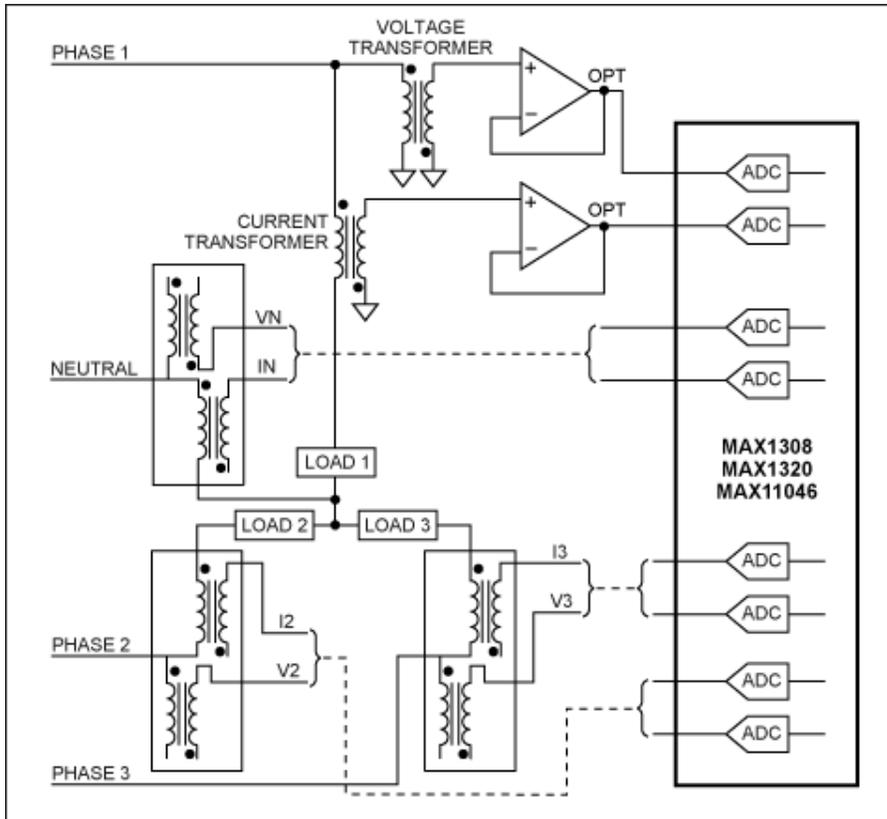
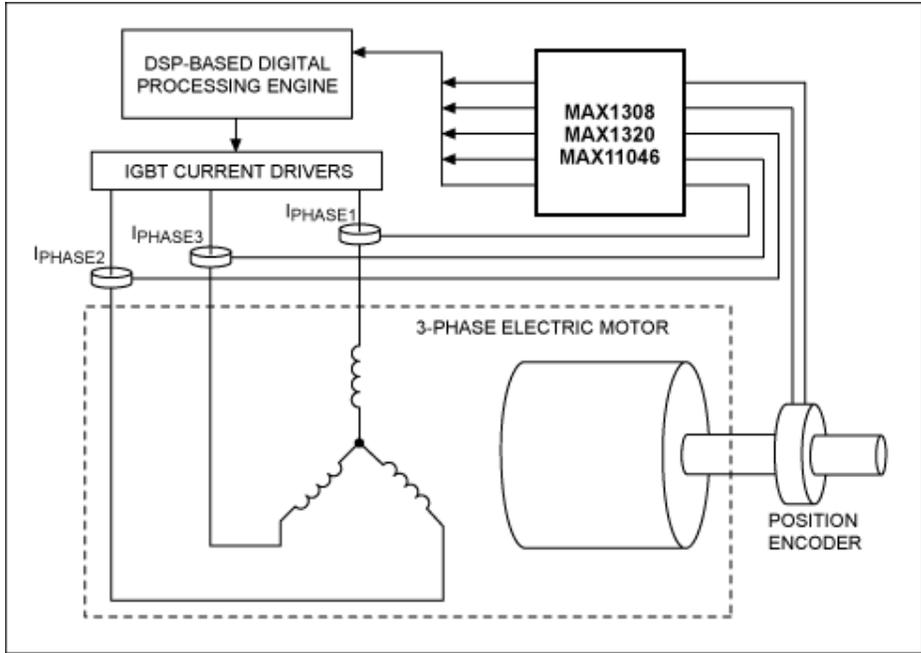

Figure 1. Typical power-grid monitoring application.
Figure 2. Typical motor-control systems.
Many advanced industrial applications require the use of high-performance, simultaneous-sampling, multichannel ADCs. Consider as examples an advanced power-line monitoring (**Figure 1**) or contemporary three-phase motor-control system (**Figure 2**). These applications require accurate simultaneous, multichannel measurement over a wide dynamic range of ~70dB to 90dB (depending on the application). A sample rate of 16ksps or higher is common.
Each power phase in Figure 1 is represented by a current transformer (CT) and a voltage transformer (PT). The complete system is comprised of four such pairs (one pair for each of the three phases plus neutral).
Each ADC device in Figure 2 simultaneously samples inputs and eliminates the need for complicated DSP algorithms that realign sequentially sampled data into a simultaneous sample set.